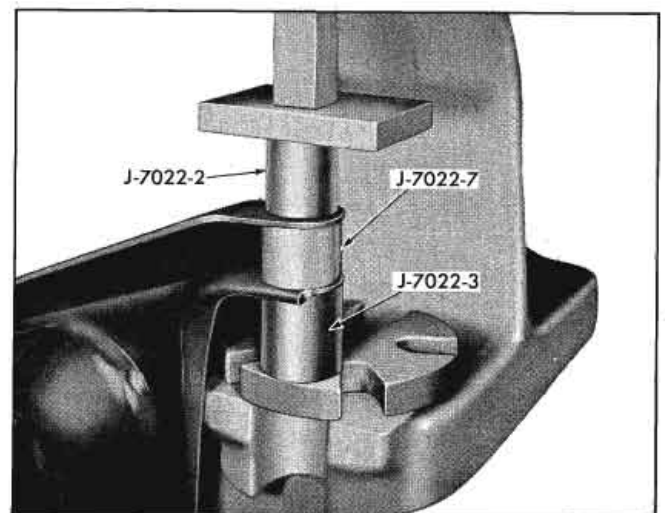

Fig. 3-23 Installing Rear Bushing in Front Lower Control Arm
3. Install new bushing in control arm using components of tool J-7022 in manner illustrated in Fig. 3-23.